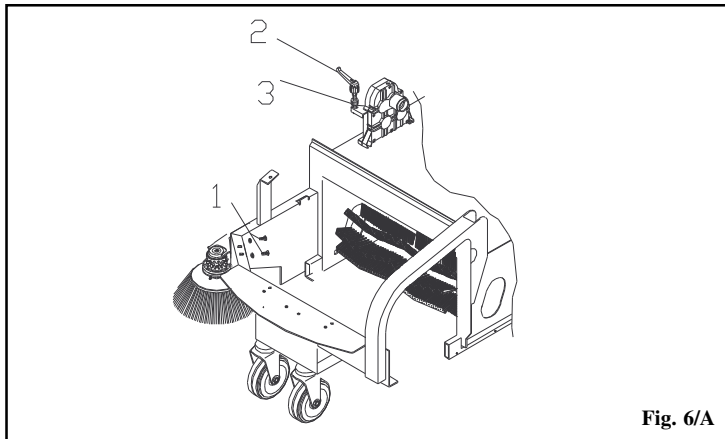

Fig. 6/A
To adjust the main brush, remove the top bonnet, slacken the lock nut **pos. 3 Fig. 6/A** and turn adjusting handle **pos. 2 Fig. 6/B** in the direction required (clockwise to increase pressure). By pulling up the handle, the brush will turn idle. This will allow you to position the brush in a place where it will not prevent the top bonnet from closing.
Adjusting versions 510ET-711ET (Fig. 6/B)